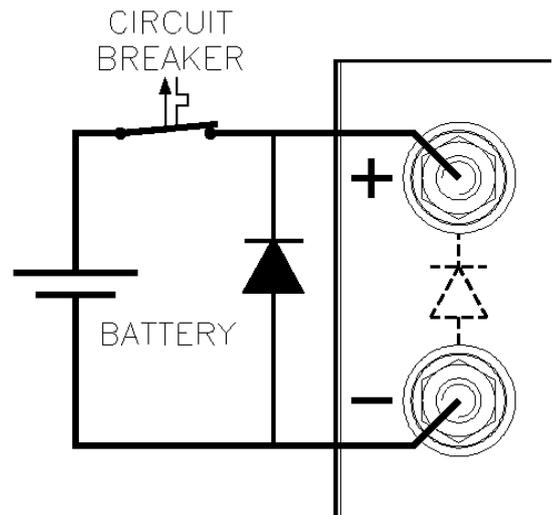

fig. 1
Use a CIRCUIT BREAKER in series in order to protect the power supply from accidental reverse connection, see fig. 1. The circuit breaker should have a DC voltage rating. If available, use the very fast type (Z), a type meant for protecting semiconductors. The unit has a reverse diode in parallel with the output, this diode and the wiring cannot withstand the thousands of amperes supplied by a wrongly connected battery.